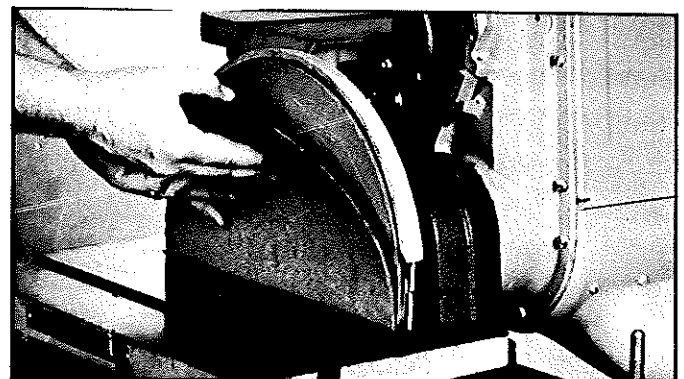

Fig. 12
3. The sheet is then placed firmly onto the disc, as shown in Fig. 12.